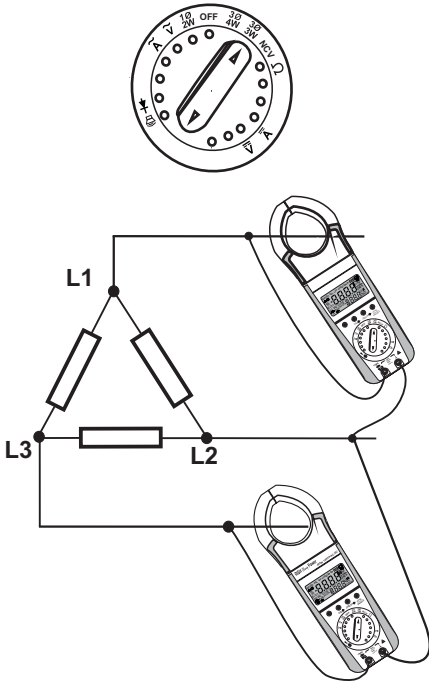

Fig 12.1.2 Connection diagram for 3ph3w unbalance load
- 2) Meter will show L1-2 and I -1 on display. Now connect meter to phase 1 as shown in fig 12.1.2.